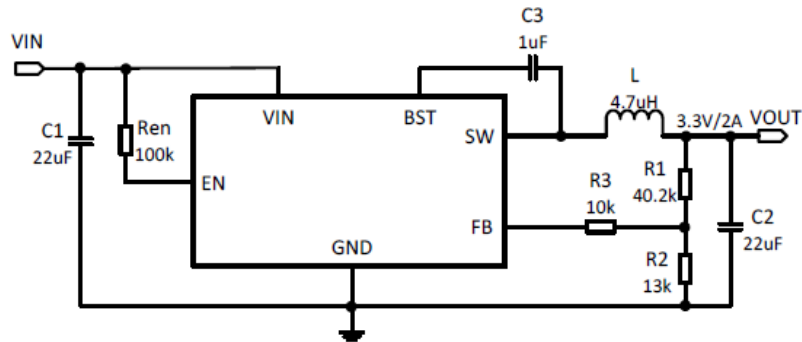

Figure 1.
2. The resistance R3 in Figure 1 makes the loop more stable. If it isn't used, the resistance R1 、 R2 should be adjusted(See Figure2.). The value of R1 is recommended to be about 300kΩ.